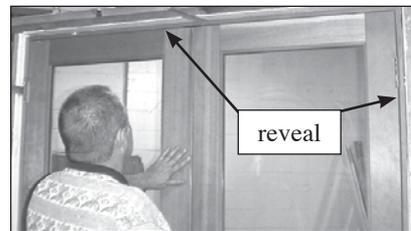

Figure 12
11. Once each hinge has been anchored, confirm that the door panels are properly hung and aligned in the frame (see figure 12). The reveal between the panel(s) and the frame should be 1/8". It should be even along both sides and the top of the door. Remember, each hinge must be shimmed.